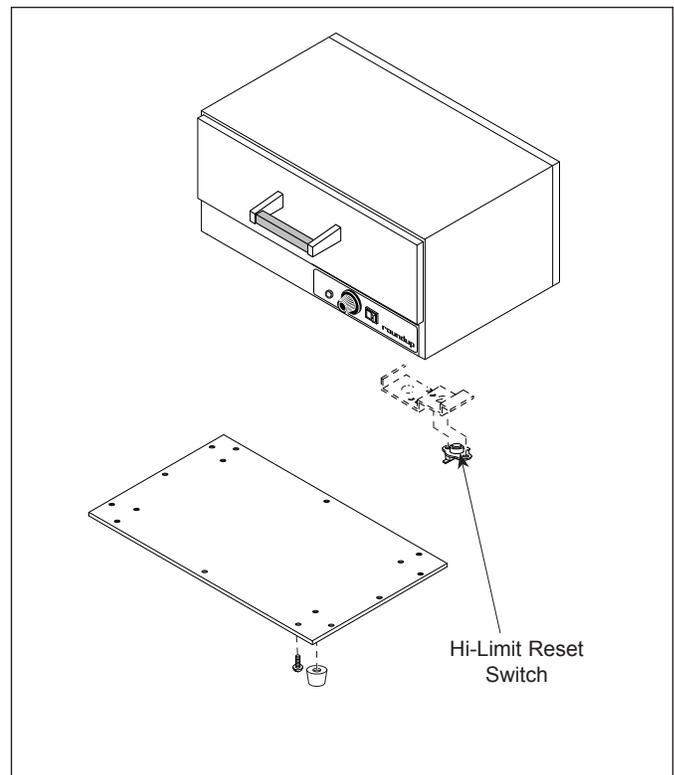

Figure 3. Hi-Limit Reset
2. Remove the Base Plate and push in the Reset Switch located on the bottom of the Hi-Limit Thermostat (Figure 3).
Hi-Limit Thermostat is tripped or inoperable.	Reset the Hi-Limit Thermostat according to Figure 3. If the unit still does not heat up, contact your maintenance person or Authorized Service Agency for service.